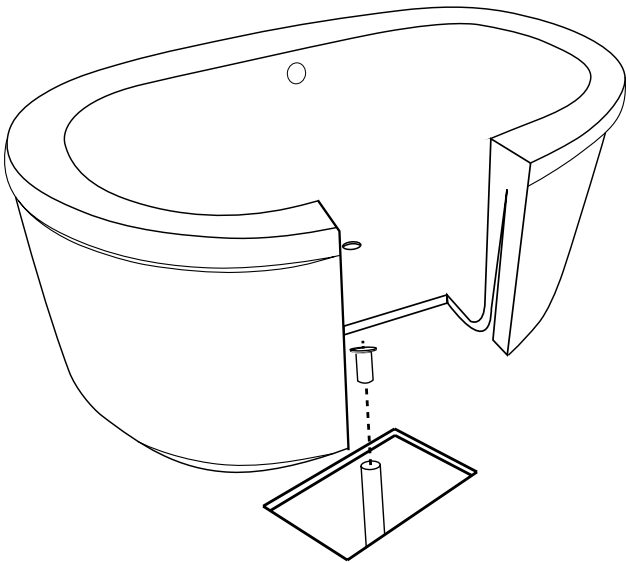

Figure 7
18. Carefully set tub into position (figure 7) and connect the drain hardware (previously installed). Finish the installation of the tail-piece installation.